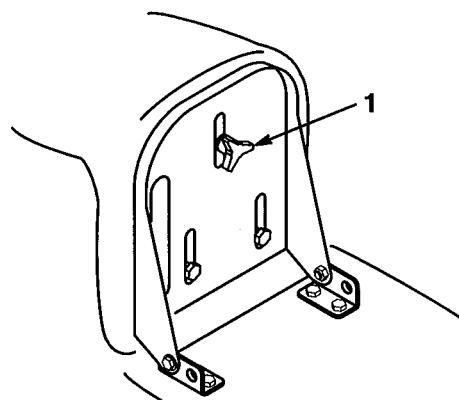

Figure 9
1. Raise the seat and loosen the adjustment knob (Fig. 9).